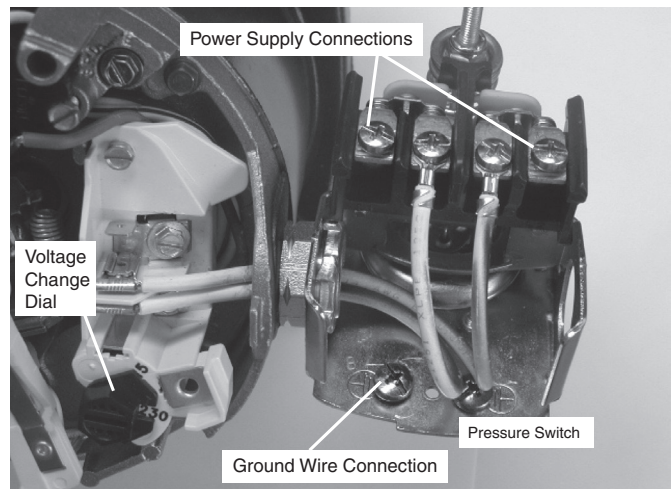

Figure 9: Voltage Adjustment Dial
1. Connect the ground wire first as shown in Figure 9. The ground wire must be a solid copper wire at least as large as the power supply wires.
4. Connect the power supply wires to the pressure switch as shown in Figure 9.